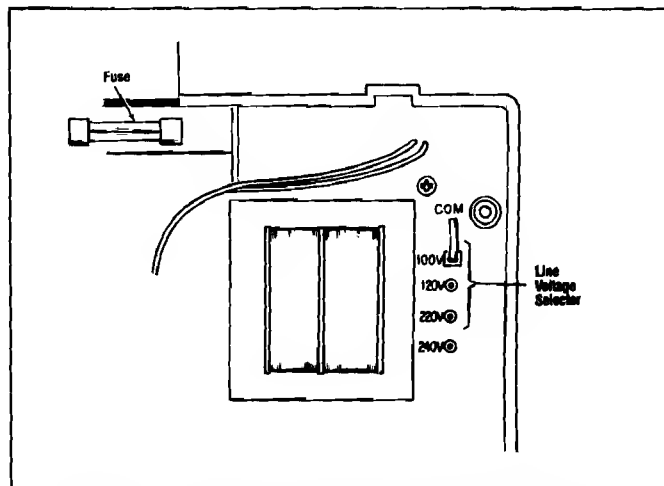

Fig. 7. Fuse And Line Voltage Selector Location.
1. If the line voltage needs to be changed, disassemble the function generator case (see the **DISASSEMBLY** section above) and unplug the plastic connector by pulling it straight up (see Fig. 7 for location).
1. To replace the fuse, disassemble the case and remove the blown fuse (see Fig. 7 for location).